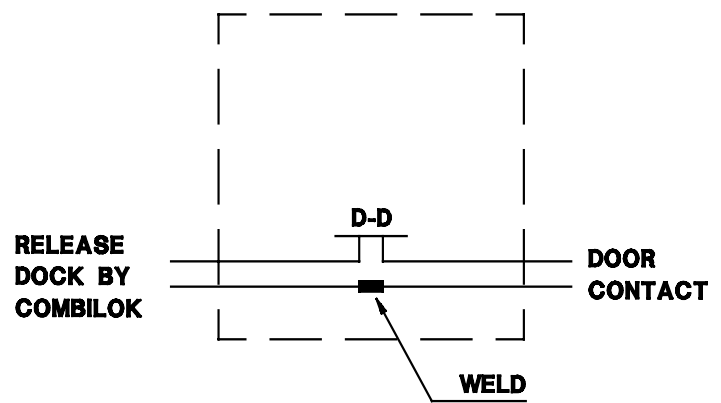

Fig. 4D, Connection leveller box
- Fit the control cable between the control box of the dock leveller (door contact "D-D") and the "release dock" contact of the Combilok. If a door contact has already been connected to the "D-D" contact, then "release dock" works in series with the door contact according to the leveller box connection (fig. 4D).
D. Fuse defective.	Replace fuse F2 (2,5A) see fig. 4D. Alert service department if problem returns.
A. Fuse defective.	Replace fuse F1 (630 mAT), see fig. 4D.